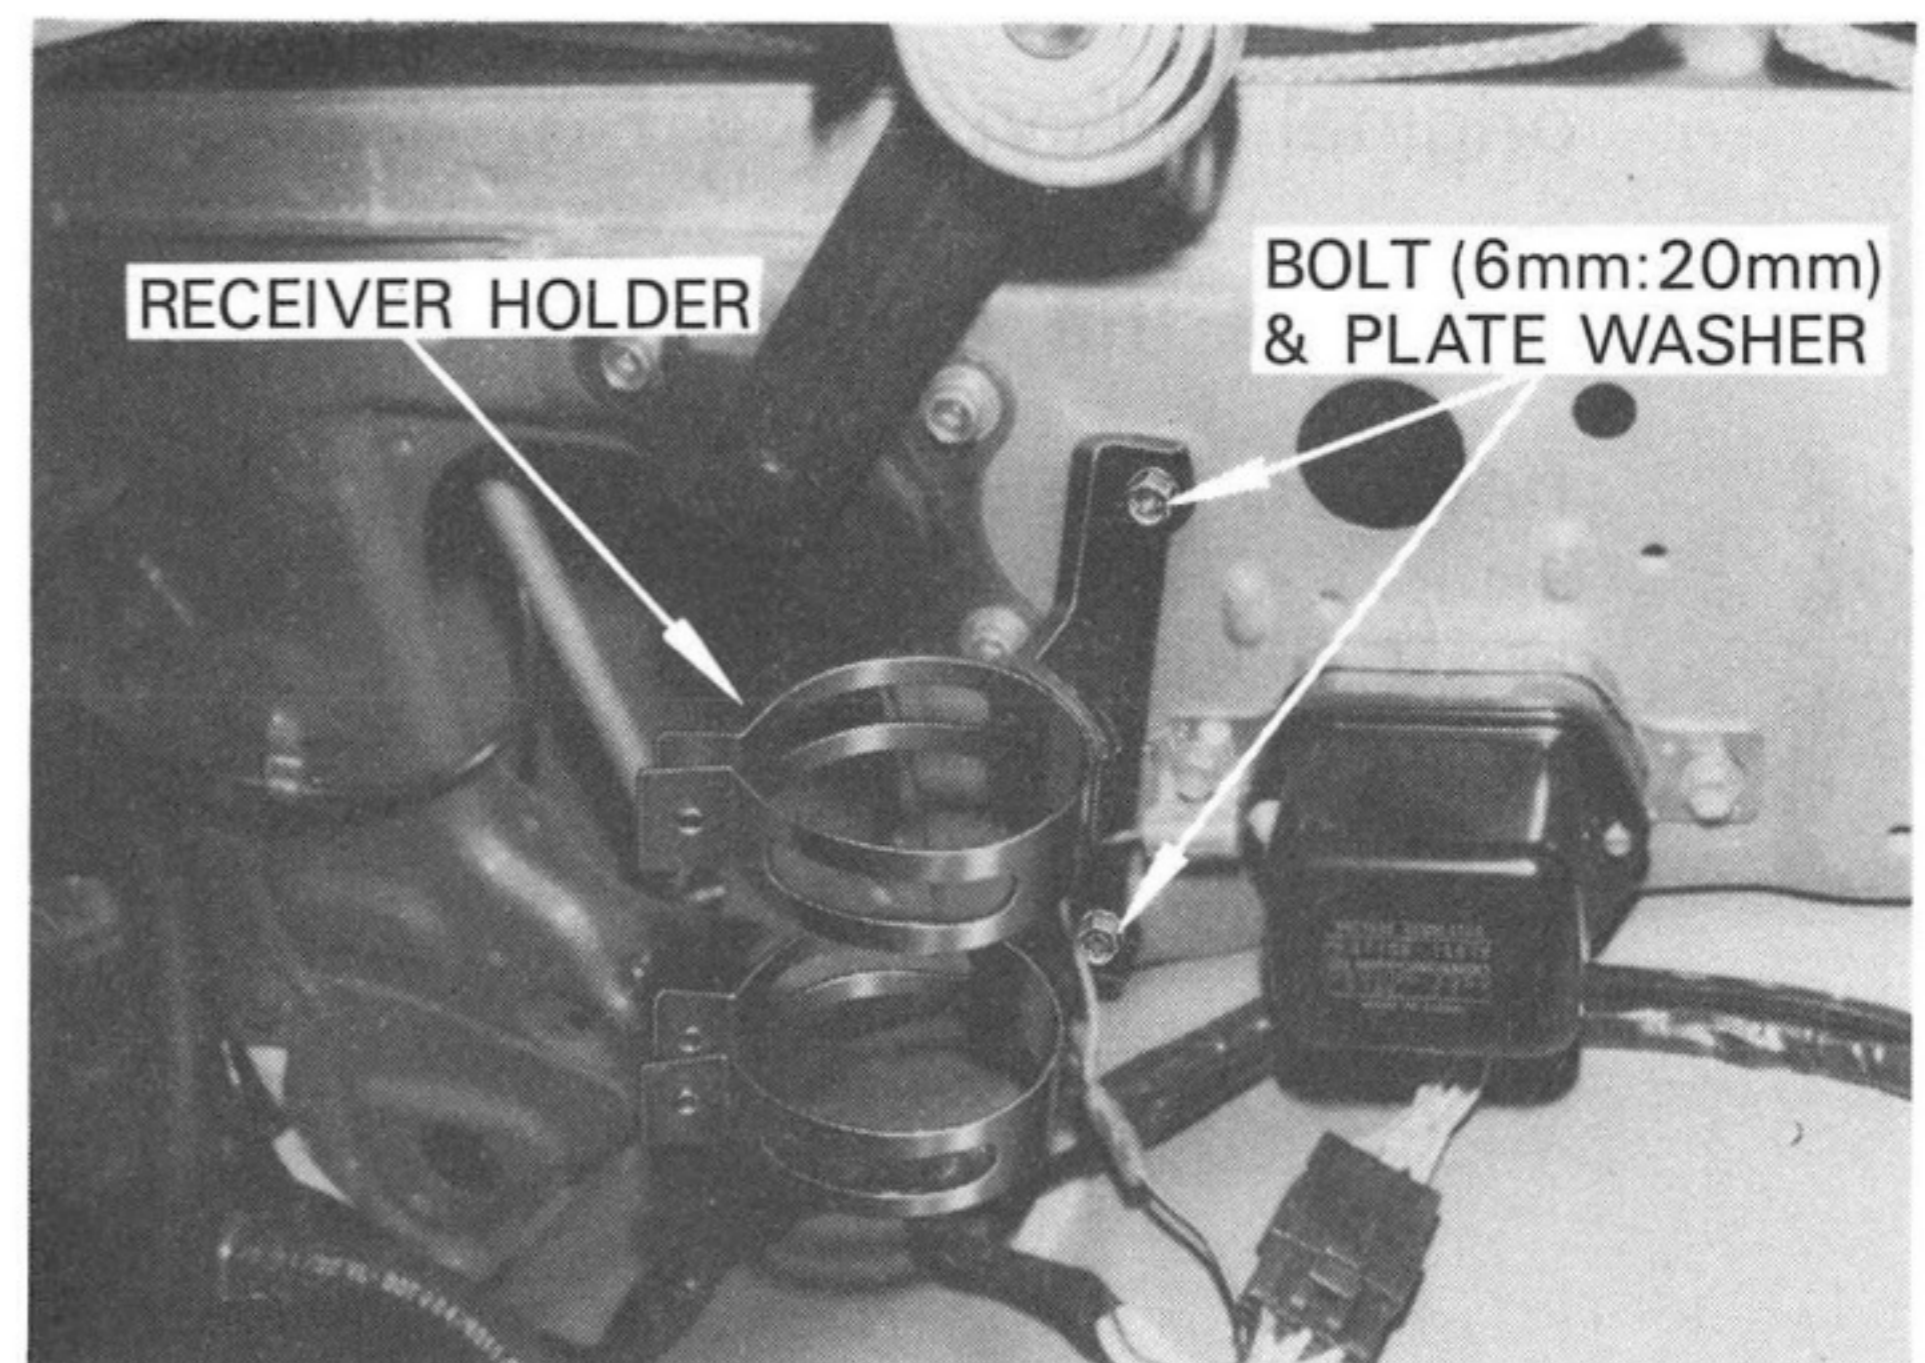

Fig. 2-11
- A) Install the receiver holder onto the side panel using original threaded holes and new bolts and washers. See Fig. 2-11.